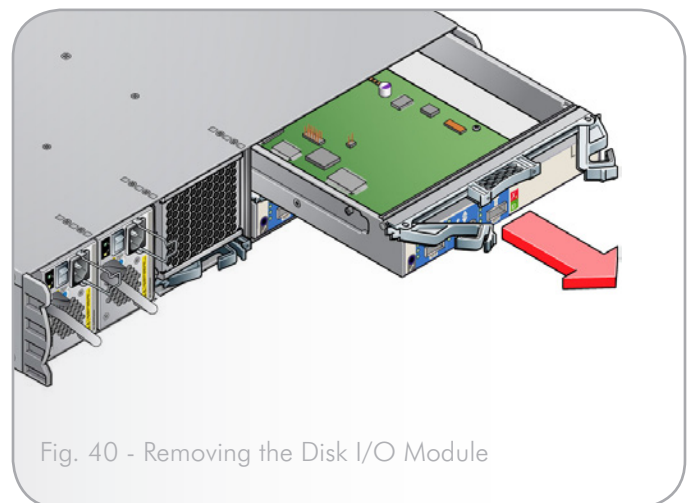

Fig. 40 - Removing the Disk I/O Module
3. Grip the latches as handles and withdraw the module from the enclosure (Fig. 40).